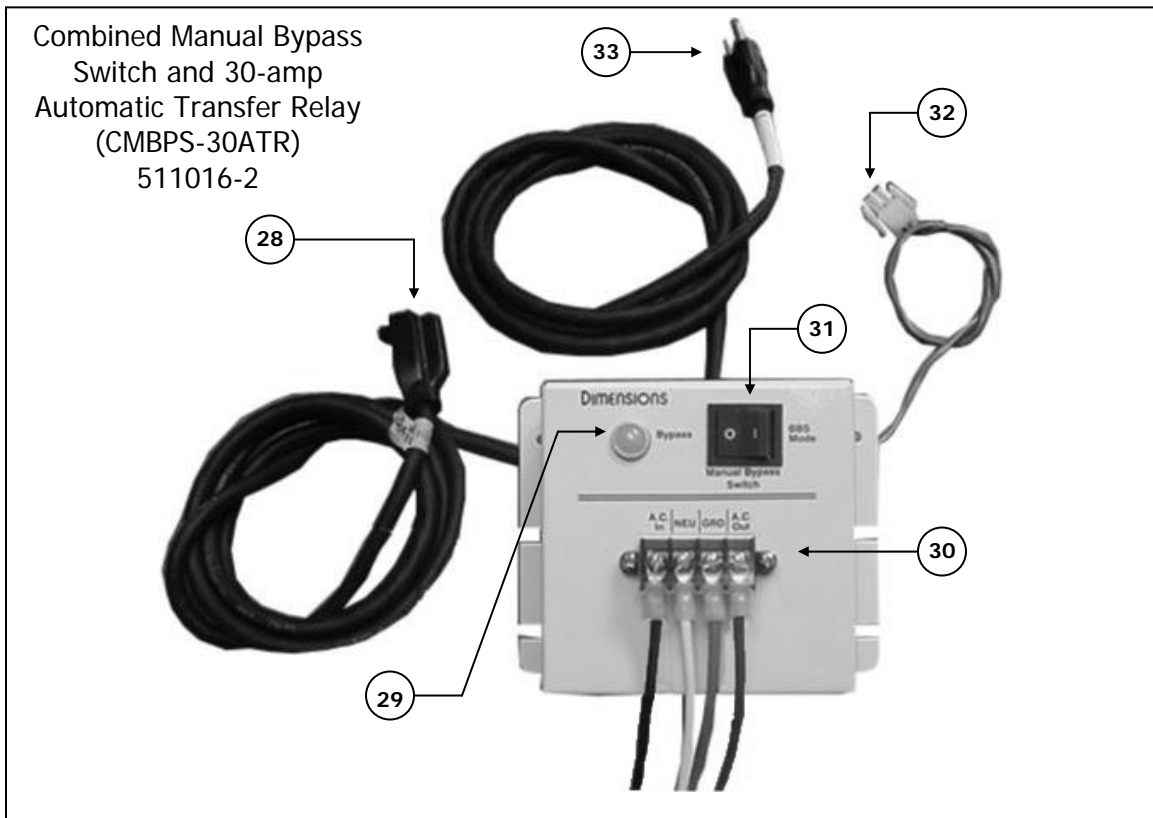

FIGURE 2: CMBPS-30ATR enclosed case physical description
- (6) **Number of Outages Meter:** Tells the number of times the system has operated from batteries since the meter was reset.
- (7) **Battery Charger On:** The green LED lights only when external AC power is present to indicate that the battery charging is engaged.
- (8) **Battery Charger Full:** The green LED lights only when external AC power is present to indicate that batteries are fully charged.
- (9) **Check Battery:** Yellow LED indicates a problem in the batteries or the battery cable.
- (10) **Relay A – On Batt:** Green LED lights to indicate that the BBS is in Inverter mode.
- (11) **Relay – B – Low Batt:** Green LED lights when the system is in Inverter mode and the useful battery capacity remaining is at the reference level chosen by user (40% in most applications).
- (12) **Relay – C – 2 Hr. Time:** Lights only to indicate that the BBS has been in Inverter mode for more than two hours.
- (13) **Transfer Relay Connector:** Two-pin connector connects to the 30ATR or CMBPS-30ATR to drive the 30 amps relay.
- (14) **Temp. Comp. Sense Wire:** Three-pin connector connects to a 9ft extension wire to the negative battery post.
- (15) **Battery Connector Cable:** Enables fast connection to batteries, Red (+) and Black (-) marks.
- (16) **BBS AC Receptacle Cord:** Connects to the 30ATR or CMBPS-30ATR AC plug item 33 in Figure 2 page 7.
- (17) **BBS AC Connector Plug:** Connects to the 30ATR or CMBPS-30ATR receptacle cord item 28 in Figure 2 page 7.
- (18) **Inverter On:** Green LED lights only if the power switch has been set to "On" to indicate that the DC to AC inverter is on.
- (19) **Inverter – Shutdown – Low Batt:** Red LED lights to indicate that the battery voltage has dropped to 21VDC and will shutdown in five seconds due to a low voltage condition.
- (20) **Inverter – Shutdown – Overload:** Red LED lights to indicate that the power demand by the load is larger than the power the BBS can deliver. The inverter will shutdown in five seconds due to an overload condition.
- (21) **Inverter – Shutdown – High Temp:** Red LED lights to indicate that the internal electronic circuit temperature has exceeded the maximum operating temperature limit. The inverter will shutdown in five seconds due to a high temperature condition.
- (22) **Power On/Off Switch:** Turns the inverter "On" or "Off" and activates or deactivates the dry relay contacts as well.
- (23) **Battery Voltage Test Point:** Attach voltmeter probes to check the battery voltage at the inverter.
- (24) **Dry Relay Connector Board:** Wiring connector board
- (25) **Low Battery Voltage Potentiometer:** Use to select the level of remaining useful battery capacity to trigger the low battery dry relay.
- (26) **RS-232 Connector Port:** Connects to a windows based PC for monitoring and controlling the BBS.
- (27) **Battery Capacity:** Indicates a ratio of battery capacity level.